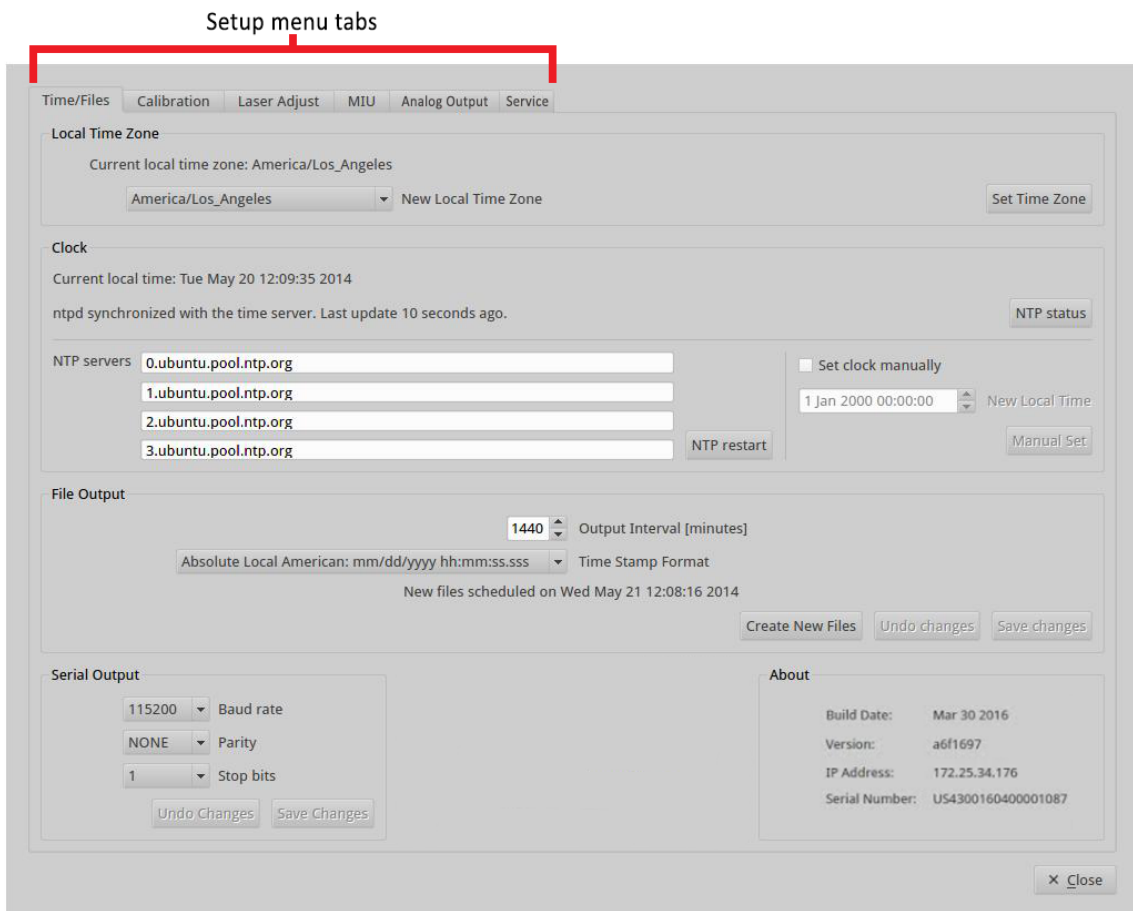

Figure 29: Setup Menu Tabs with Time/Files Screen Selected
2. The default *Time/Files* screen is displayed. (Figure 29)
The *Setup* menu has function tabs at the top of the screen that allows you to configure the analyzer mode and settings. (Figure 29) These tabs let you: